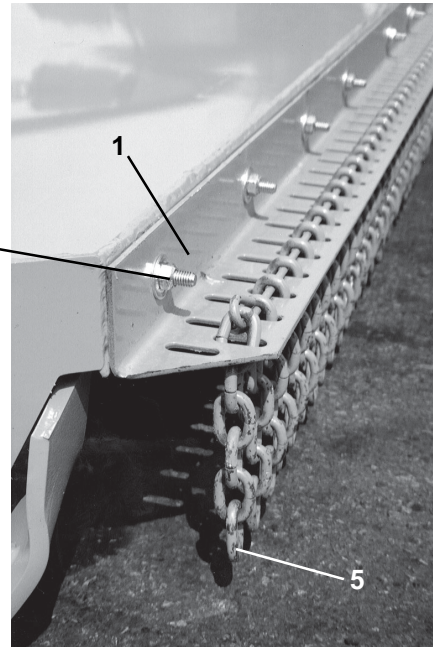

FIGURE 22
Attach Front Wing Chainguard (1) to front wing deck using 7/16" x 1-1/2" Bolts (2), Flatwashers (3), and Nuts (4) as shown in **Figure 22**. Individual Chain links (5) should be inserted into chainguards.